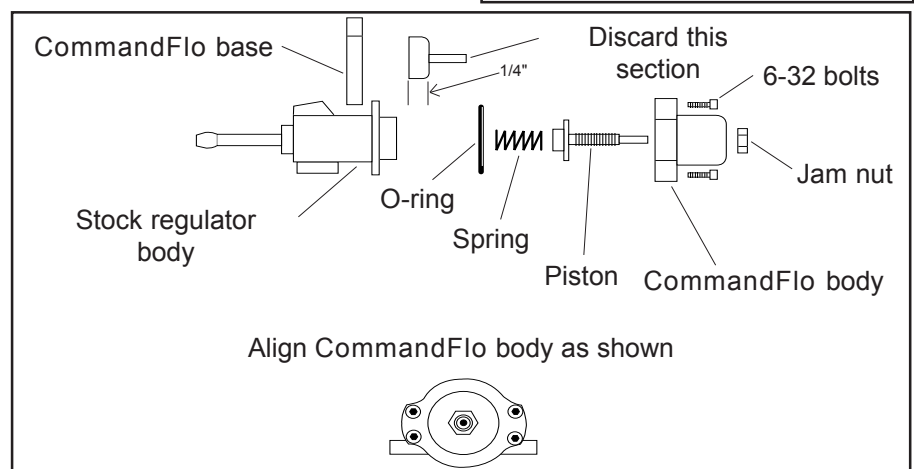

Figure 1
STEP 6. Carefully mount the regulator body in a vise and mark 1/4" down on the regulator "hat." Using a hacksaw, cut off the top of the regulator hat at the mark. **Be careful:** the top is under pressure from the spring inside! Remove and discard the top and spring (see fig. 1).
brass piston. Without dropping the spring, install the **CommandFlo** body onto the stock pressure regulator. Place a drop of Locktite® on each of the four supplied 6-32 bolts and carefully attached the **CommandFlo** base (use caution when installing the screws to avoid stripping out the base). Once the base is attached, align the **CommandFlo** assembly as shown (see fig. 1).